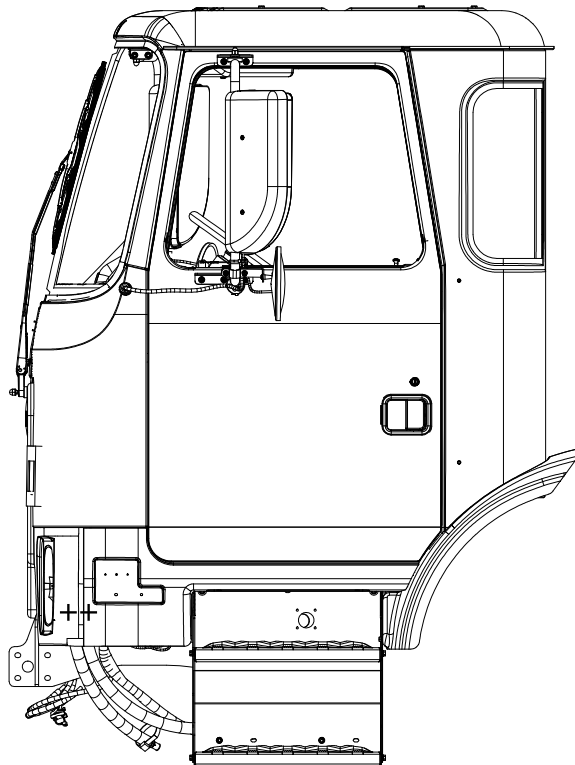

Figure 1
2. Unlock and open the left door (see *Figure 1*).